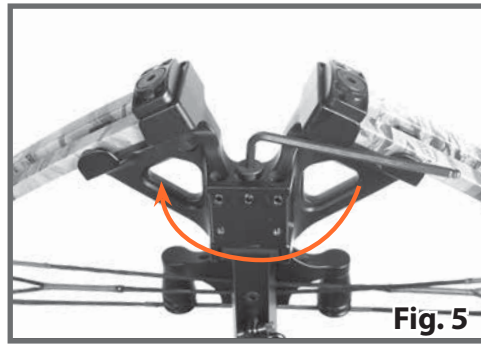

Fig. 5
4. Slide the riser onto the barrel. Install and tighten the limb screw using the hex wrench. Insert the Limb Set Screw to prevent the limb screw from loosening. Tighten using hex wrench. (Fig. 5 & 6)